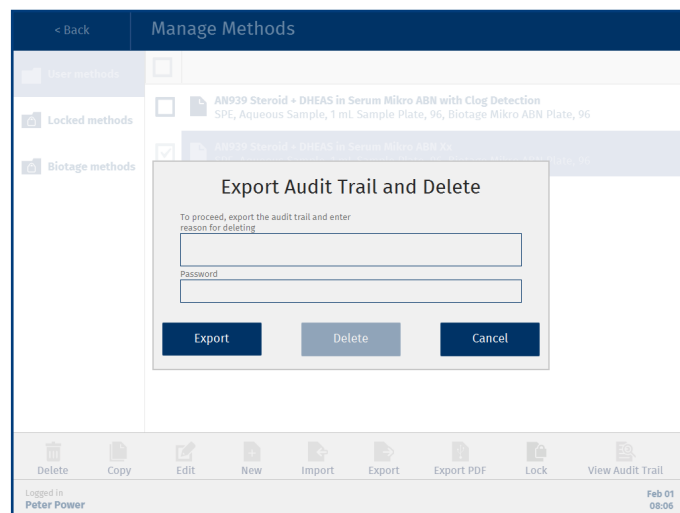

Figure 27. The Export Audit Trail and Delete dialog.
2. Select the method and press **Delete**. The **Export Audit Trail and Delete** dialog opens; see Figure 27.